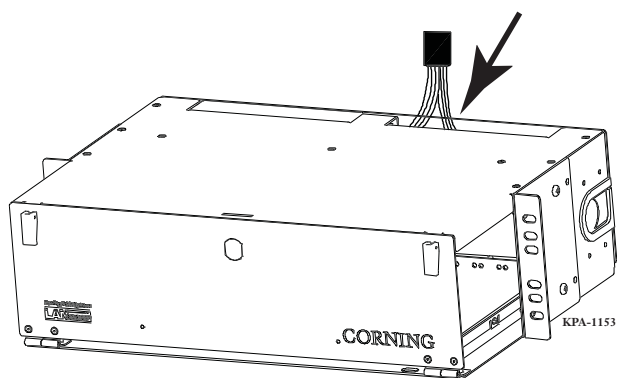

Figure 3
5.2 Pigtails are routed through the openings in the top and/or bottom of the unit. Determine how pigtails will be routed and remove the appropriate feed-thru covers (Figure 3).